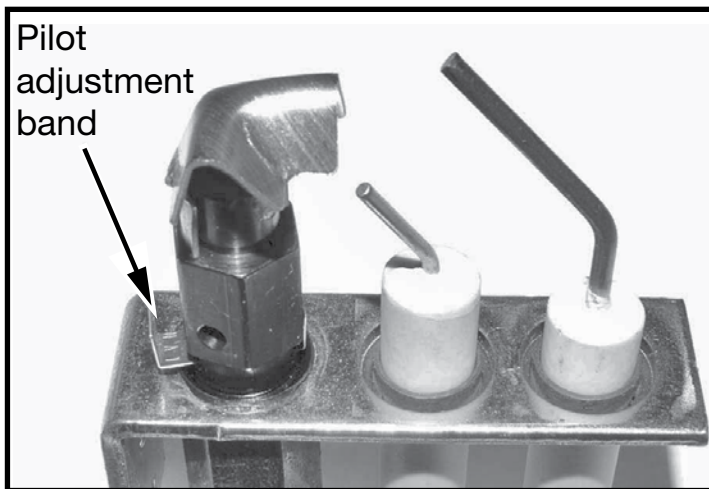
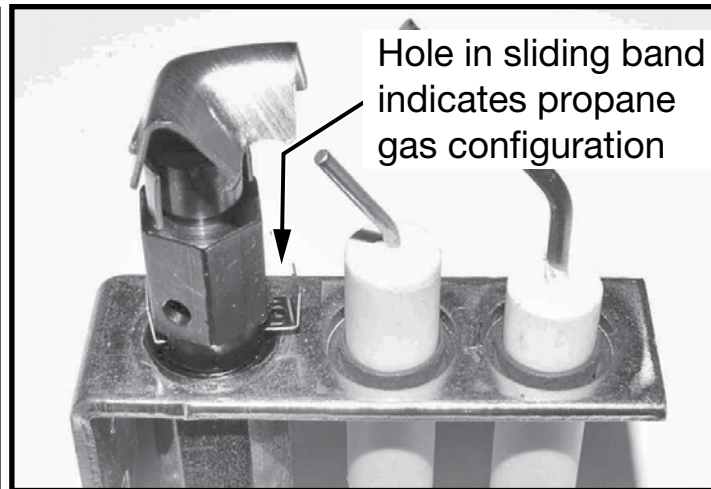

Figure 20: Pilot band in natural gas position.
Figure 21: Pilot band in propane gas position.
9. Slide the pilot adjustment band over and ensure that the hole in the orifice band is showing. Figure 20 shows the pilot band in natural gas position. Figure 21 shows the pilot band in propane position.